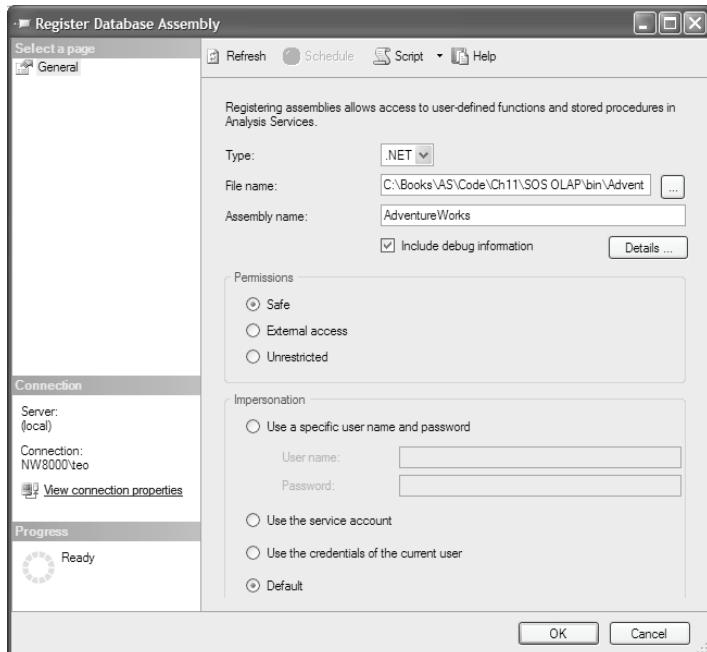

Figure 11.7 You can deploy the library assembly using the SQL Server Management Studio.
- Right-click on the Assemblies folder and choose *New Assembly* to launch the Register Database Assembly dialog (Figure 11.7).
Similar to the SQL Server stored procedures, the allowed actions that an SSAS stored procedure can execute are “sandboxed” by the CLR code access security model. When the server loads an assembly, the CLR goes through some decision making to determine what the assembly can do. As part of this process, the CLR gathers some information about the assembly, such as the assembly origin, strong name and publisher (for strong-named assemblies). The assembly evidence is then passed to the CLR code-access security policy for evaluation which has a final say about what the assembly code can do. To simplify the code access security setup, SSAS provides three permission sets to configure a library assembly (see Figure 11.7):